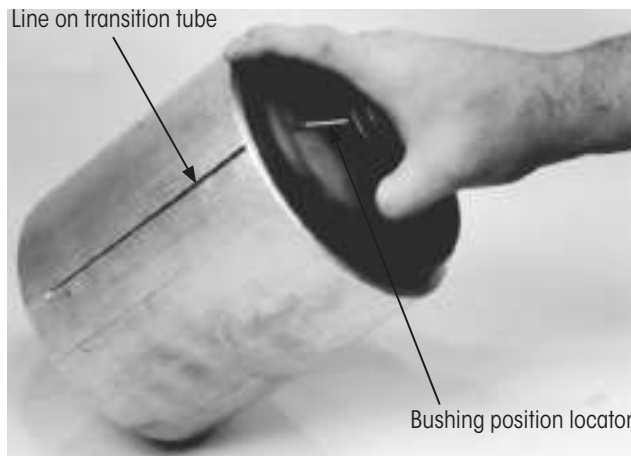

Figure 29: Inserting replacement bushing into transition tube
3. **Insert** the bushing into the transition tube (Figure 29).
4. **Align** the position locator on the bushing with the line drawn on the transition tube as shown in Figure 29.
5. **Ensure** the bushing position locator (Figure 29 on page 15) is aligned with the line on the transition tube and bushing tube (Figure 36).